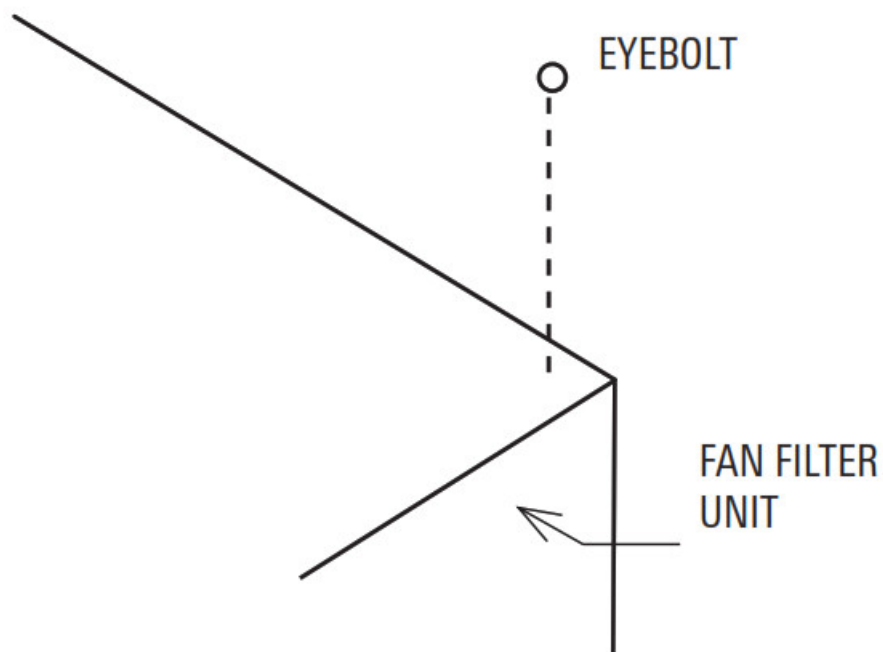

Figure 2: Hanger Supports
Step 2. If using rigidly supported grid (usually 2" (50 mm) or wider), raise unit through ceiling and lower onto the gasketed grid. If using a flexible grid (typically supported with wires), the unit must be secured to an engineered design support system with s-hooks and chain. Screw the four eyebolts into the nesters on the lid assembly before lifting into an overhead position (see Figure 2)